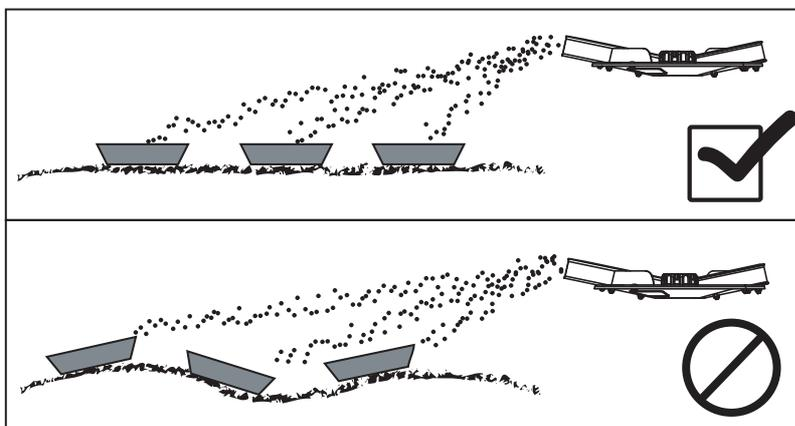

Figure 7.21: Layout of the catch trays
- Set the trays horizontally. Slanted trays may cause measurement errors (figure 7.21).